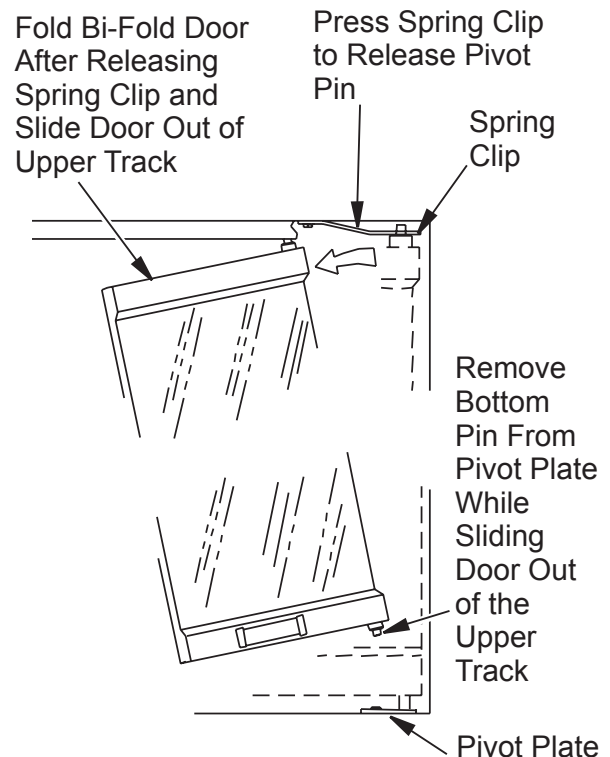

Figure 32 - Removing Glass Doors
2. Fully fold frame assembly and slide upper edge toward center of firebox opening until guide pins are free of frame rail (see Figure 32).